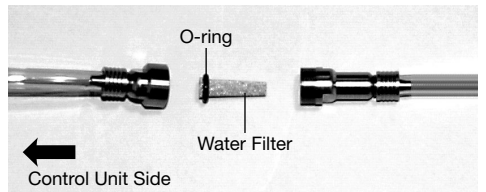

Fig.26
② When the water filter case is separated, the water filter can be removed as shown in Fig.26. Replace with a new one and reassemble the filter in the reverse order. (Fig.26)
Assemble the water filter in the correct direction as shown in Fig.26.